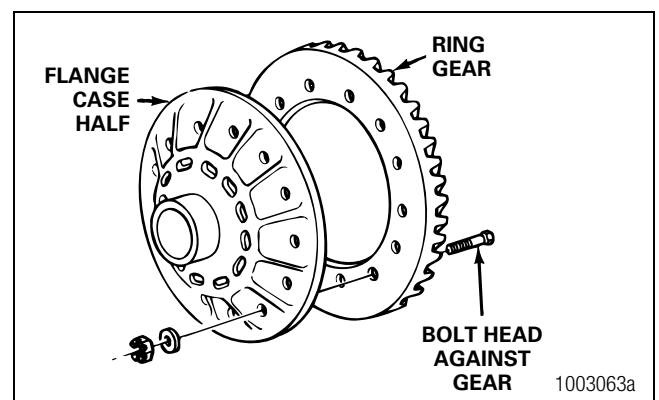

Figure 5.35
5. Install the bolts, nuts and washers that hold the ring gear to the flange case half. Install the bolts from the gear side of the assembly. The bolt heads must be against the ring gear. Figure 5.35.